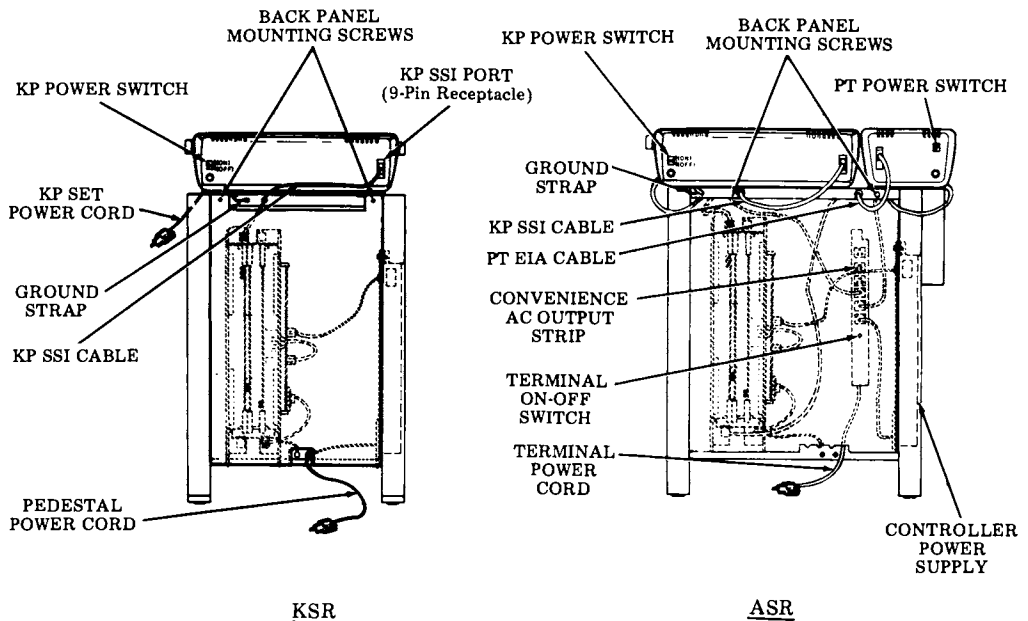

Fig. 4
- 3.09 Remove the back panel by removing the two mounting screws, tilting the panel rearwards and lifting it out. See Fig. 4.